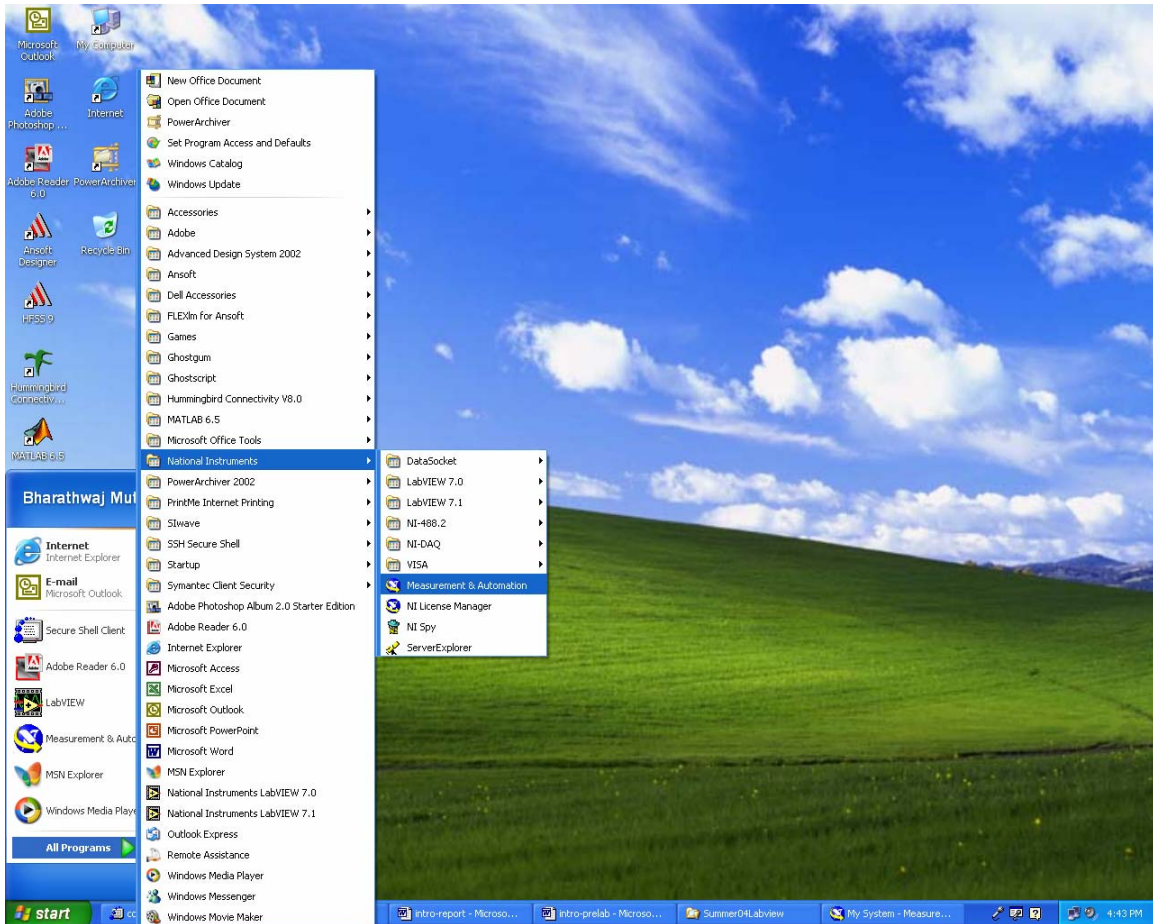

Figure 1. Starting the M&A explorer
2. Start the M&A explorer: (see figure 1)